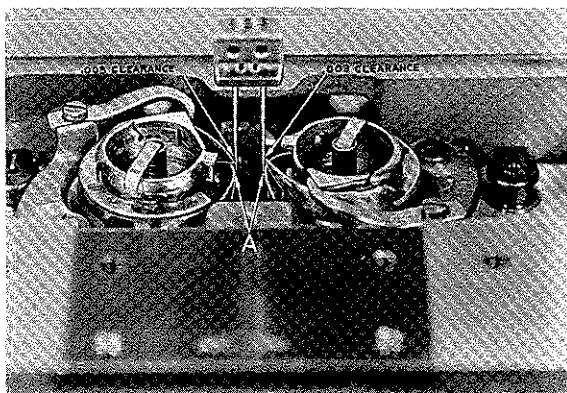

Fig. 13
The needle and the hook point should be approximately .003 inch apart (Fig. 13) while the needle guard is just brushing the needle (A) as the hook point is rotated back and forth across the needle. The hook needle guard may be bent slightly to obtain this condition.